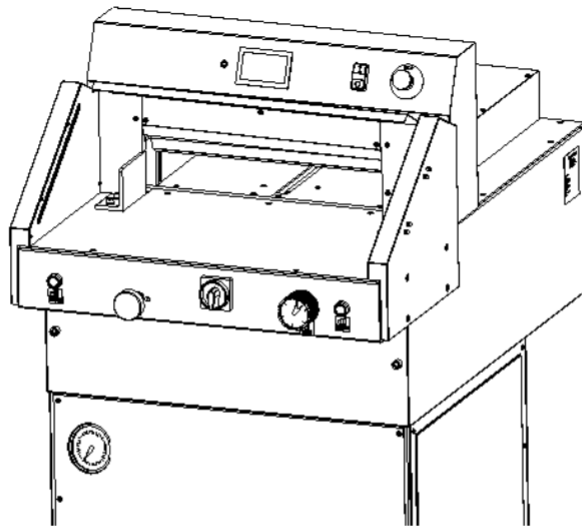

Figure 6a Cutter without side tables
- • completely assembled and ready for use (Fig. 6a)